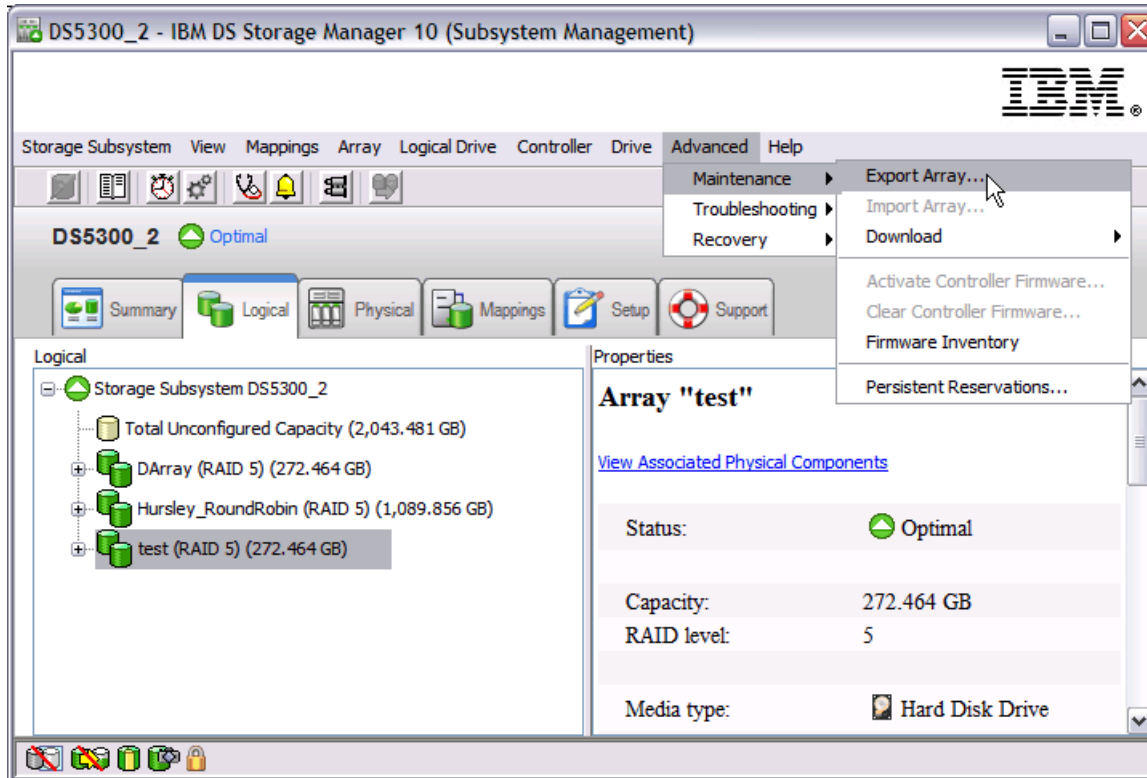

Figure 5-43 Exporting array
2. Select **Advanced** → **Maintenance** → **Export Array...** from the Subsystem Management window, as shown in Figure 5-43.